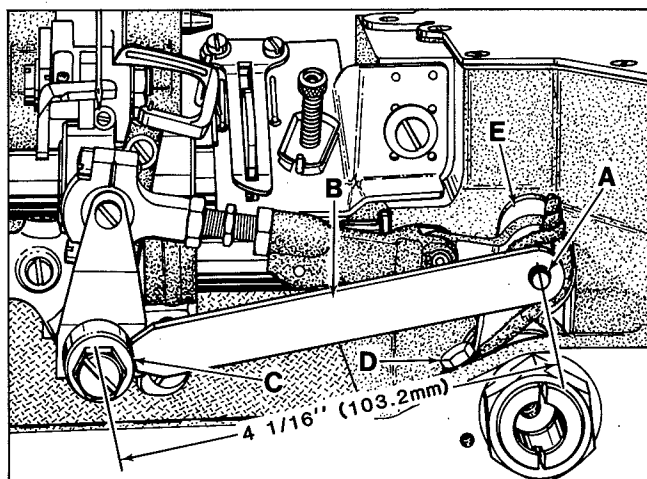
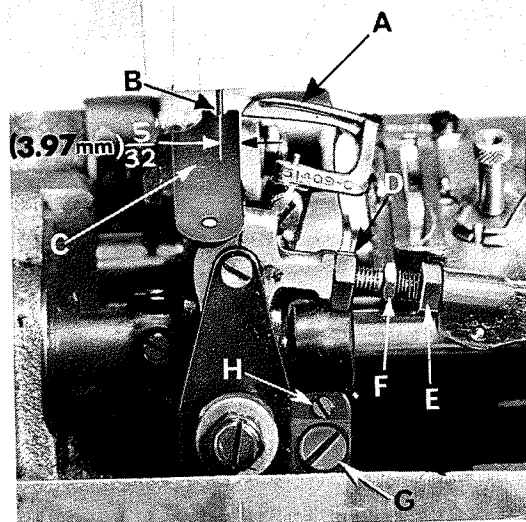

Fig. 5
Fig. 6
With looper at extreme right end of its travel, check location of the centerline of right looper connecting rod bearing using gauge No. 21227 CX. Remove nut from looper lever stud (A, Fig. 5) and place hole in gauge (B) over threaded stud. The left end of gauge should locate against the RIGHT side of looper rocker cone (C). If adjustment is necessary, loosen clamp screw (D), reposition looper drive lever (E) as required and retighten screw (D). If gauge is not available, setting can be checked with a scale. Dimension from centerline of stud (A) to centerline of cone (C) which should be 4 1/16 inch (103.3mm).
Insert a new needle, type and size as specified. Looper gauge is $\frac{5}{32}$ inch (3.97mm) for Styles 56300 VF and 56300 VG. Set the looper (A, Fig. 6) so the distance from the center of the needle (B) to the point of the looper (A) is $\frac{5}{32}$ inch (3.97mm), when the looper is at its farthest position to the right. Looper gauge No. 21225-5/32 (C, Fig. 5) can be used advantageously in making this adjustment. If adjustment is required, loosen nut (D) (it has a left hand thread) and nut (E) on connecting rod (F), turn the connecting rod forward or backward to obtain the $\frac{5}{32}$ inch (3.97mm) dimension. Retighten both nuts, first nut (E), then nut (D). Make sure the left ball joint is in vertical position and does not bind after adjustment.
If adjustment is necessary, loosen lock screw (G, Fig. 6) and turn stop screw (H) as required. Turning stop screw clockwise sets the looper to the rear and turning it counterclockwise acts the reverse. Holding looper to the front while making this adjustment may prove helpful. Tighten lock screw when setting is obtained and recheck the adjustment.